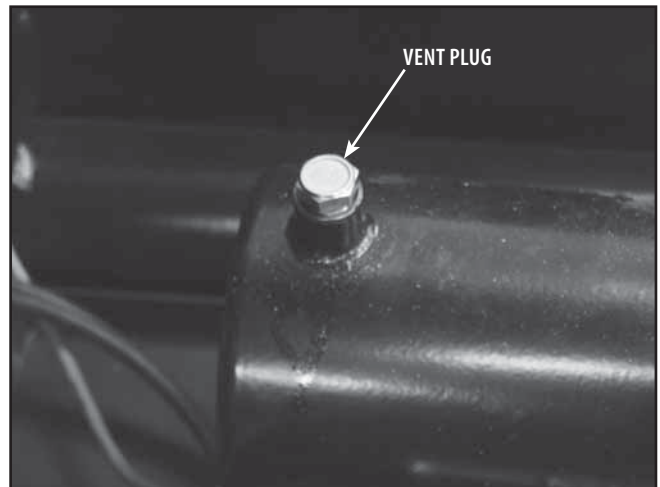

FIGURE 5.13
4. Remove the Hydraulic Reservoir Vent Plug and install the Red Shipping Plug removed during the initial set up of the table. See Figure 5.13.
3. Install the Hydraulic Reservoir Vent Plug into the new assembly. **Refer to Figure 5.13.**